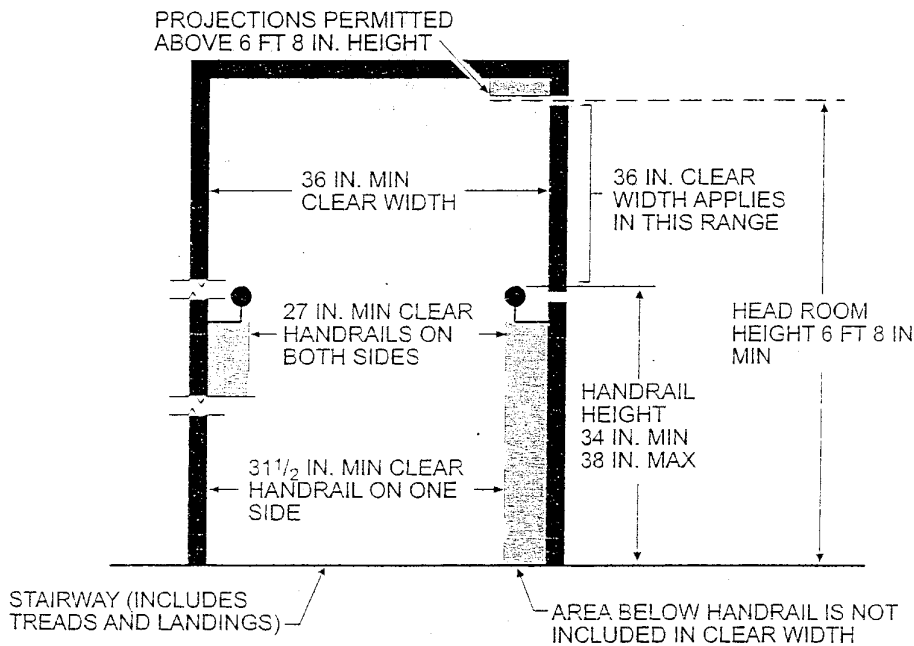

Figure R311.5.1
- 1) **Width** – Stairways shall not be less than 36 inches in clear width at all points above the permitted handrail height. (see figure R311.5.1)